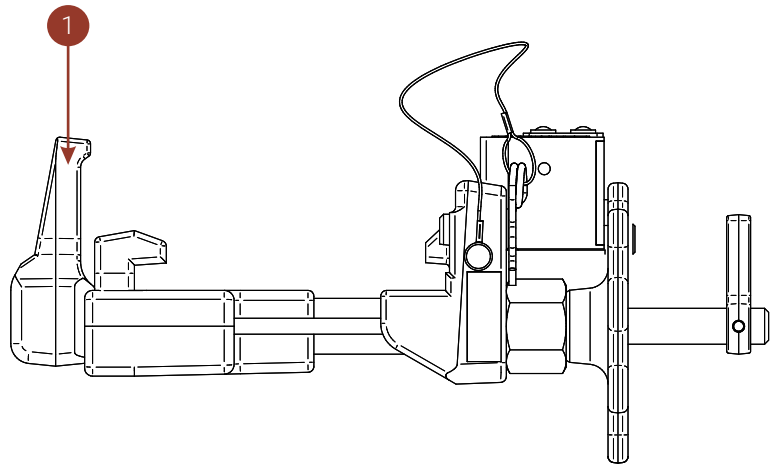

Fig.9 UZZ-100/V
The UZZ-100/V lock is used for the first set of points lock VAE-manufactured turnouts, the operation remains unchanged like UZZ-100 lock. An important modification in the design adaptation for VAE turnouts is a slight change in the shape of the lock bumper (item 1 in Fig9) compared to the UZZ-100.